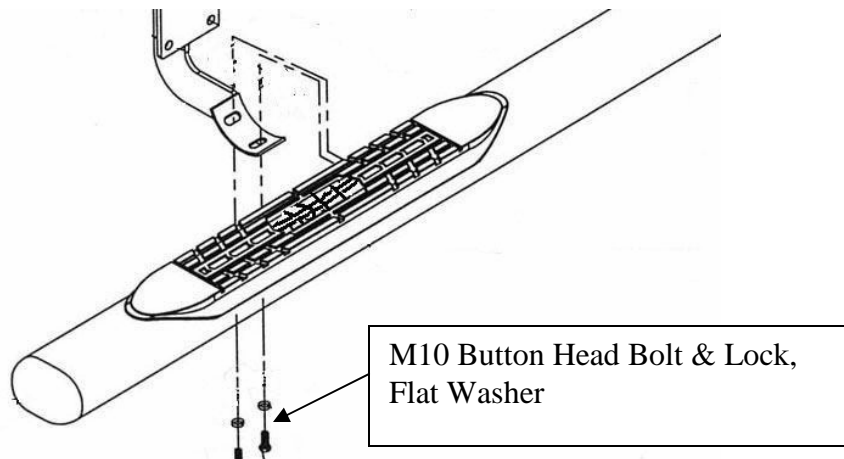

Figure 2. Installation View of Bracket & Bar
6. Assemble with M10 button head bolts and M10 washers. 2 bolts per bracket, 6 bolts per bar (**see Fig 2**). Hand tighten.